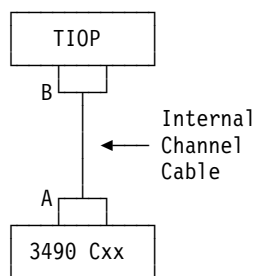

Figure 19. Tape Subsystem Cable Connections
The tape subsystem cables are connected as shown in Figure 19.
- a. Disconnect the internal channel cable from the I/O device control unit (at **A** in Figure 19).
- b. Disconnect the internal channel cable from the TIOP card (at **B** in Figure 19 on page 651).
- c. Connect channel wrap block 2 to the TIOP card (at **B** in Figure 19 on page 651).
- c. Reconnect the internal channel cable to the TIOP card (at **B** in Figure 19 on page 651).
- d. Reconnect the internal channel cable to the I/O device control unit (at **A** in Figure 19 on page 651).